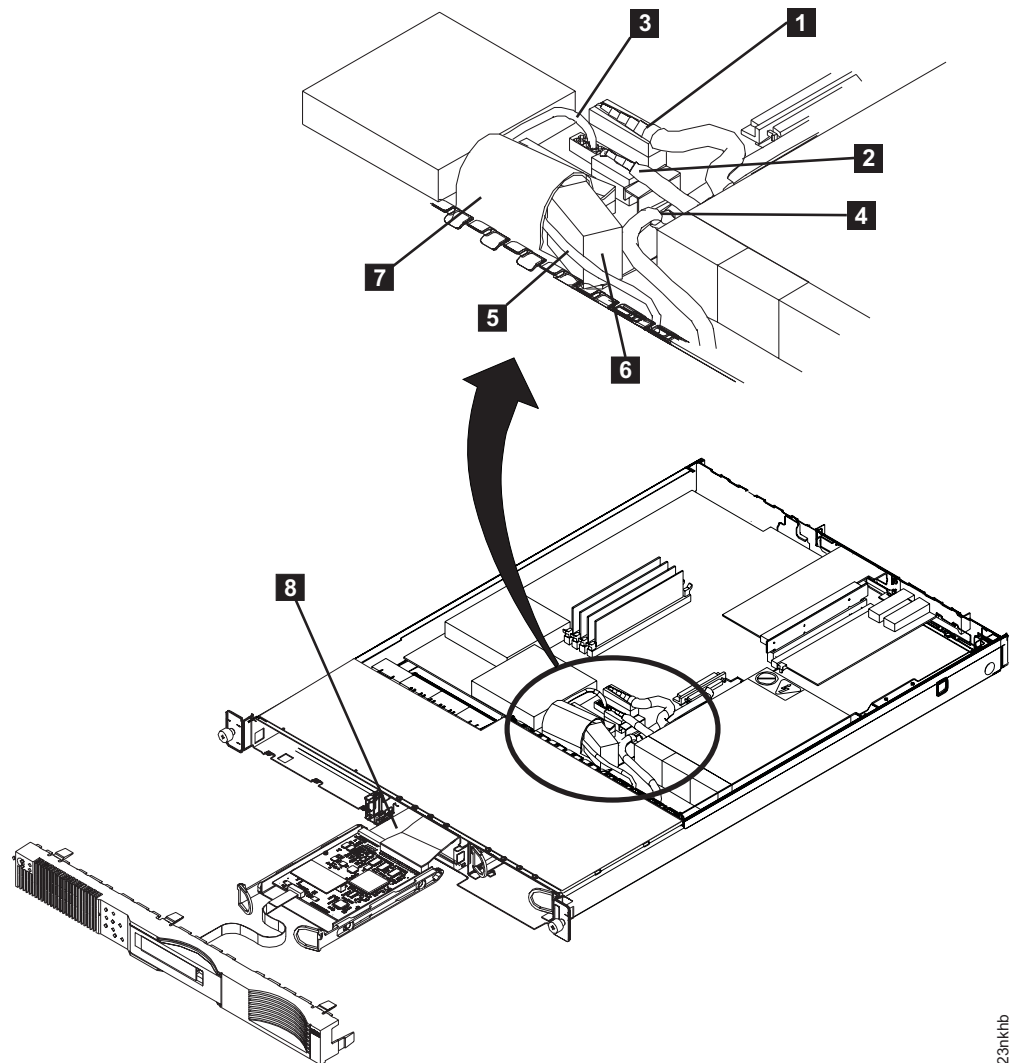

Figure 66. Service controller cables for the SAN Volume Controller 2145-4F2
5. Press the latch on power connector P1 1 and power connector P2 2, and disconnect them from the system board. See Figure 66 on page 83.